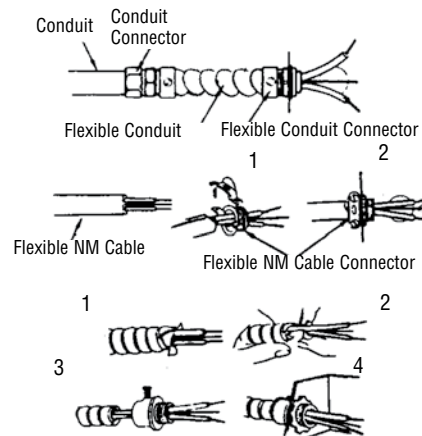

Figure 2 - Connectors, cable, and hardware used to wire the MWUH
NOTE: For certain applications, conduit may be required (see Figure 2). Check local electrical codes. If wiring is run in conduit, be sure there is enough flexible conduit to allow the heater to be turned if necessary.
2. Attach the cable connectors to the unit (See Figure 2) and slide the 10 gauge wire through the cable connector. Pull enough wire through the connector to work with when making the connections.